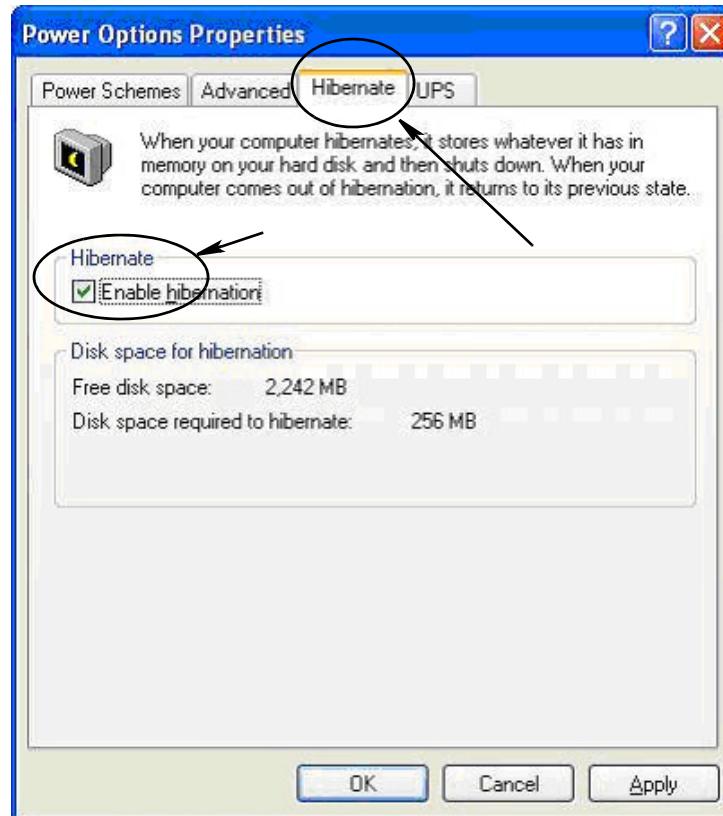

FIG. 31
3. Select the Hibernate tab. Turn off hibernation by clearing (unchecking ) the Enable Hibernation check box . Click Apply and OK to close all windows (FIG. 31) and save the changes.